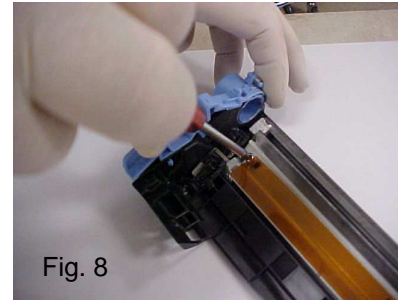

Fig. 8
9. Remove the two screws and wiper blade and clean thoroughly (Fig. 8).